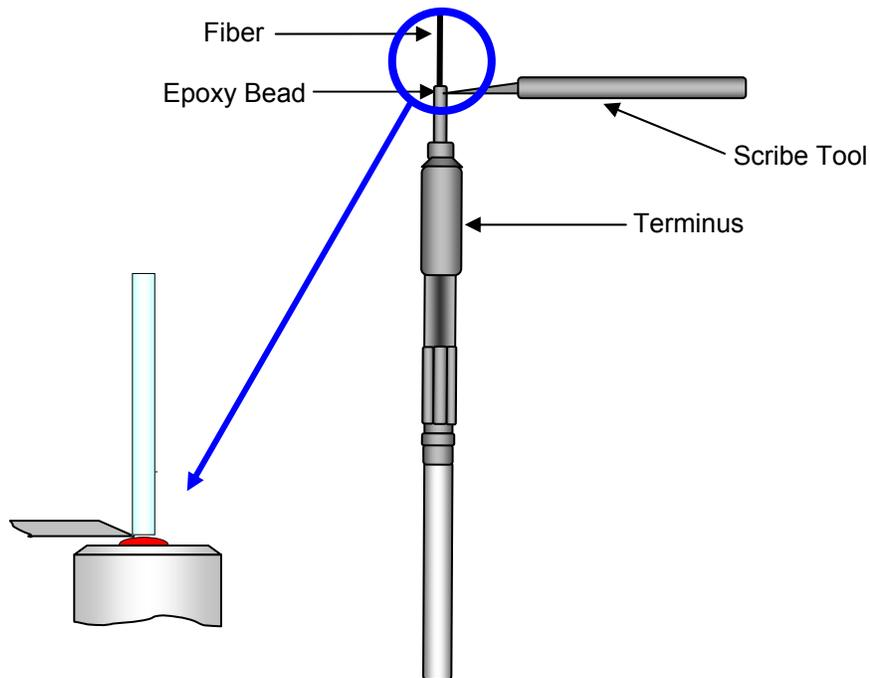

Figure 7-40 – Scoring the Fiber
Step 1 - After the terminus has cooled down, carefully score the fiber close to the terminus tip at the epoxy interface using one short light stroke with cleaving tool. Pull off each fiber with a gentle, straight pull. Deposit the waste fiber in a trash container. See Figure 7-40.